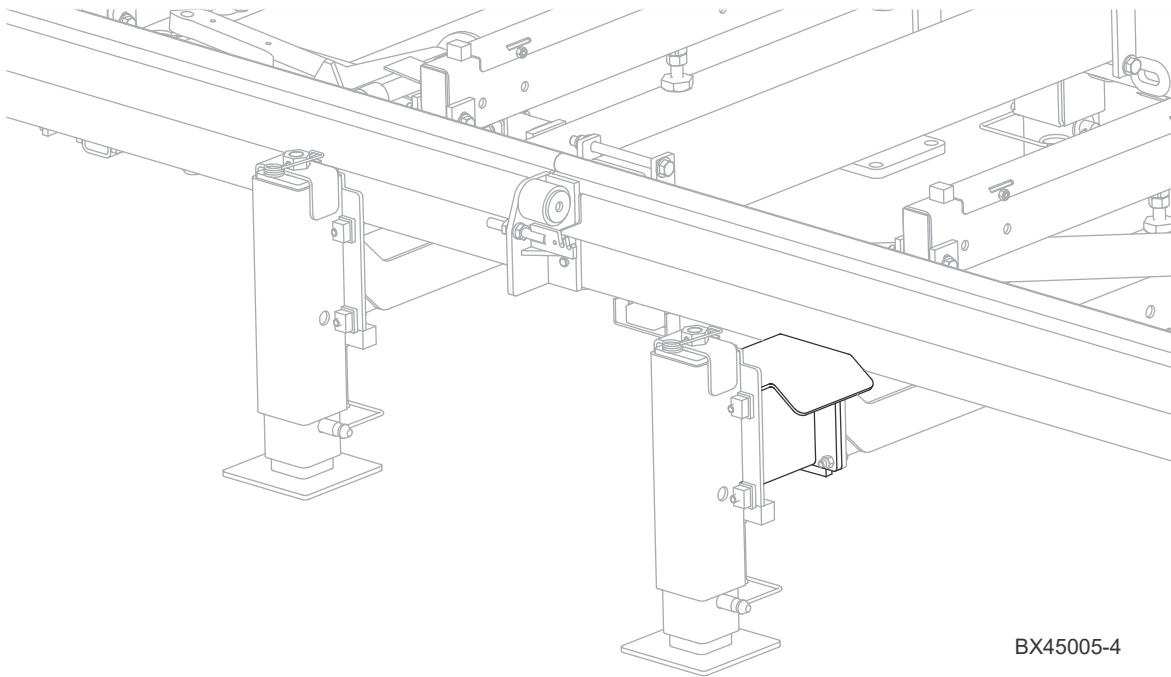

FIG. 1-3
5. Install the FAO extension, part 110617, in between the leg assembly and the sawmill frame to provide clearance for the cable carrier as shown in Fig. 1-3.